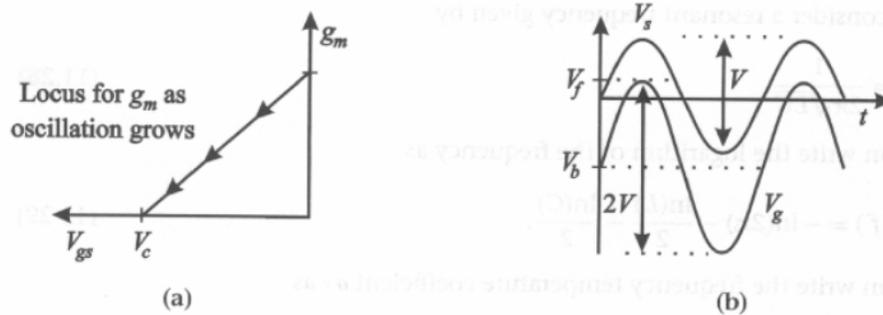

Figure 11.7. Effect of the gain-limiting diode on  $g_m$  as the oscillation builds up (a).  $V_{gs}$  and  $V_g$  waveforms (b).
3. As  $V_{gs}$  becomes more negative,  $g_m$  decreases, as shown in Fig. 11.7(a):
The steady-state JFET source and gate voltages are sketched in Fig. 11.7(b) above. This can be directly compared with the oscilloscope screen shot shown on page 7.